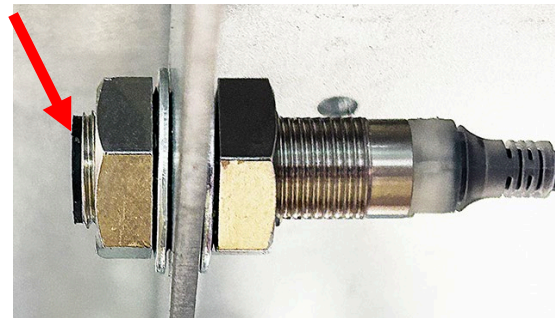

Figure 3
3. From the rear of the fryer locate the filter pan proximity switch. It is located in the center of the frame, directly behind the filter pan (see Figure 3).
4. The proximity switch in Figure 3 is not adjusted correctly. It shows the black end of the switch protruding beyond the end of the nut.